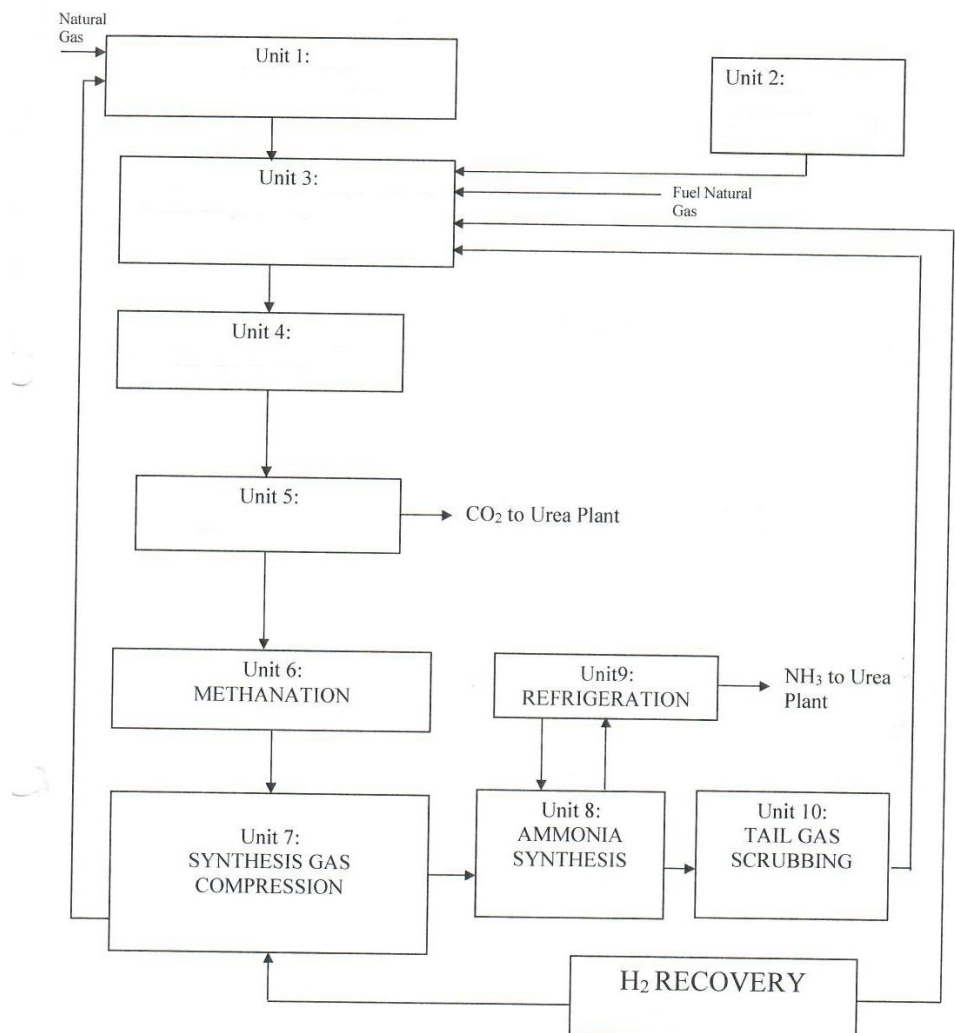

Figure 4: Block Flow Diagram of Ammonia Plant
- (a) Figure 4 shows the Block Flow Diagram of an Ammonia Plant. Name unit 1, 2, 3, 4 and 5.